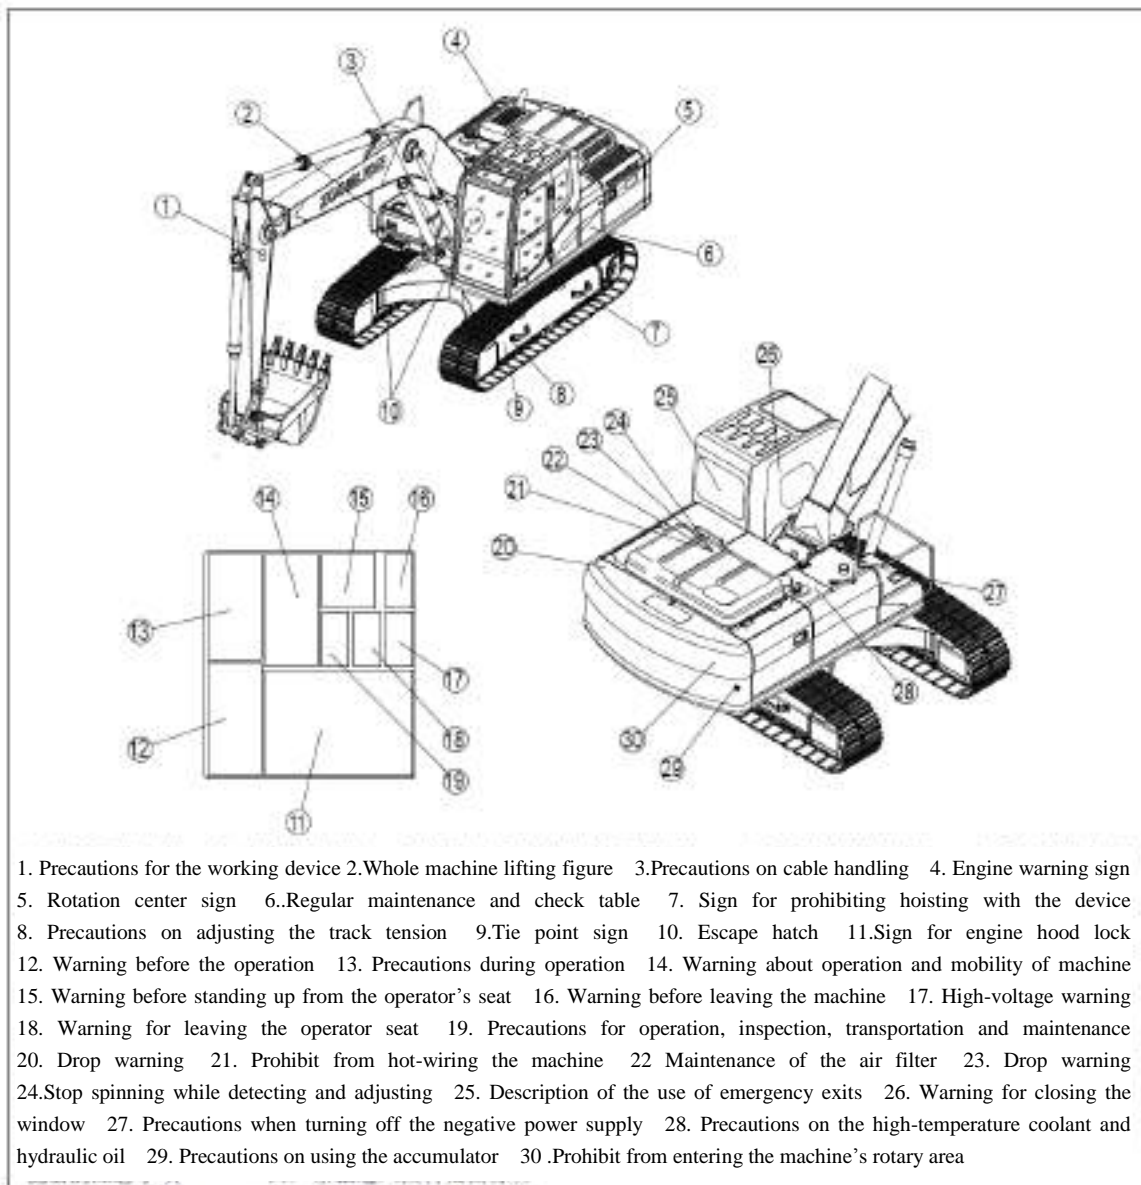

Fig 1-1 Location of safety signs
This machine uses the following warning signs and safety signs (as shown in Figure 1-1, Note: The figures inside the circle are the illustrations corresponding to the figures inside brackets in the "safety signs" text. For example: $\odot \rightarrow (1)$). It is necessary to remind that they should be kept in correct place and always be kept clean to ensure that the signage content can be clearly read. When cleaning the signs, do not use organic solvents or gasoline, otherwise it would peel off the sign. If some of the signs are damaged, lost or can not read normally, they should be replaced timely. See instructions or actual signs for details about the part number of the signs, and make the order from Zoomlion, or Zoomlion dealers.